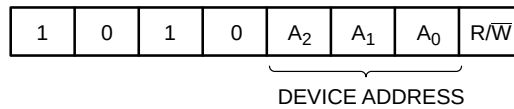

Figure 3. Slave Address Bits
The Master initiates data transfer by creating a START condition on the bus. The Master then broadcasts an 8-bit serial Slave address. The first 4 bits of the Slave address are set to 1010, for normal Read/Write operations (Figure 3). The next 3 bits, A₂, A₁ and A₀, select one of 8 possible Slave devices. The last bit, $R/\overline{W}$, specifies whether a Read (1) or Write (0) operation is to be performed.